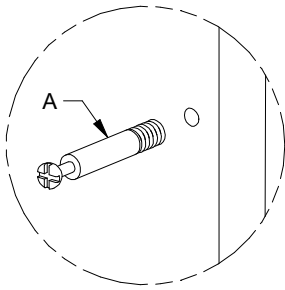

Figure 1
1. Cam Bolt: (Figure 1) Screw the cam bolt into the predrilled hole. Tighten until snug and the non-threaded portion of the bolt (A) touches the surface.